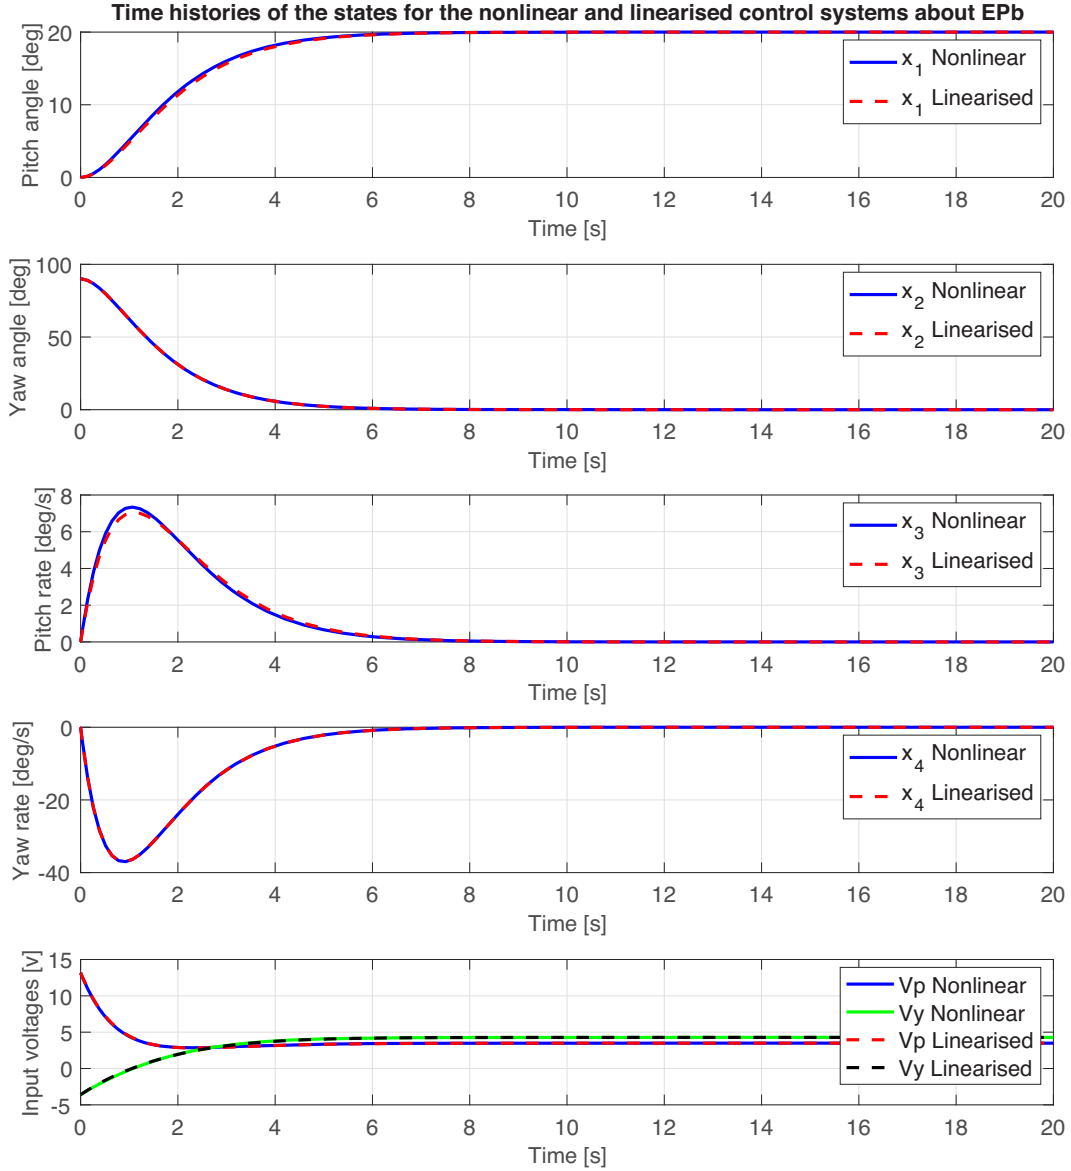

Figure 5: Time histories of the states and input voltage.
7. Repeat this process for initial conditions about the equilibrium point \bar{x}_b . Save your script as `aero_mainfile_sfc_comparison.b.m`. Sample results for the initial conditions $x_1(0) = 0$ deg, $x_2(0) = 90$ deg, $x_3(0) = 0$ deg/s and $x_4(0) = 0$ deg/s are shown in Figure 5, where we selected the following eigenvalues $\{-1, -1.1, -1.2, -1.3\}$.